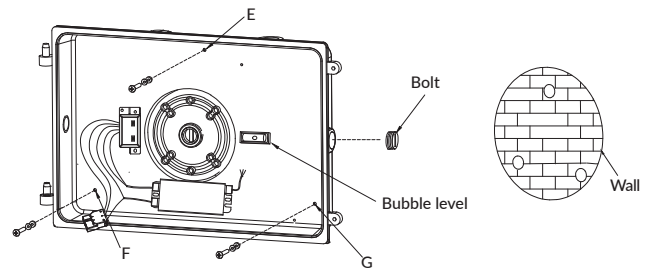

Figure 6
- Bring the main power wires from conduit through the hole into the fixture. Line up the rear housing in the desired location and aligned it with the conduit insert. Built-in level bubble provided to facilitate mounting alignment. Lock it securely to the mounting surface with the three screws. Once securely attached ensure waterproofing with adding silicon sealant around E/F/G mounting points. (Figure 6)